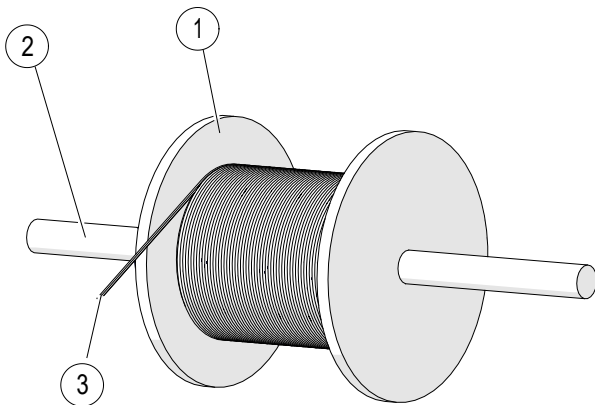

Fig.6: Wound heating wire with suspension
→ Place the spool with the wound heating wire near the infeed of the heating wire by means of an on-site axle for suspension (2) (see Fig.6).